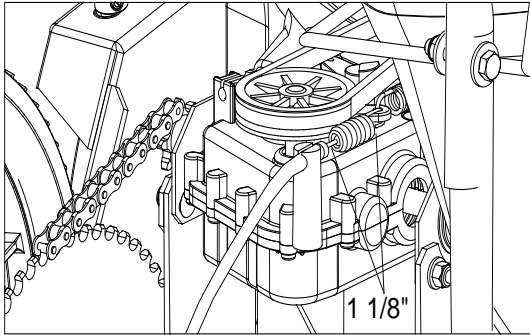

Fig. 18
9. Measure the amount of spring stretch. Spring should measure 1 1/8" when engaged (Lever 4" from handle). (See *Fig. 18* next page.)